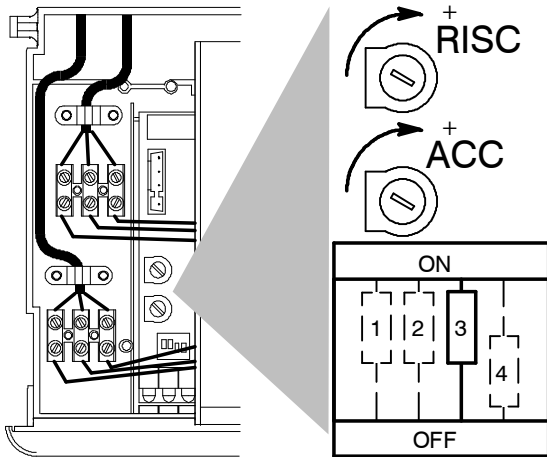

fig. 7.8
- 14 Check the ignition gas pressure by setting dip-switch "3" (fig. 7.8) to the OFF position. Compare the value on the gauge with the value indicated in the sections 4.6 or 4.7 (gas pressures at the burner), accordingly with the model of boiler installed.
To adjust the ignition gas pressure, set dip-switch "3" (fig. 7.8) to the OFF position and adjust potentiometer marked "ACC" with a screwdriver until correct ignition gas pressure is obtained.
With the boiler operating in c.h. mode, use a suitable screwdriver to turn the adjustment potentiometer marked "RISC" (fig. 7.8). Rotating the potentiometer anti-clockwise reduces the maximum supply current to the gas modulator device, and thus reduces the gas pressure to the burner.